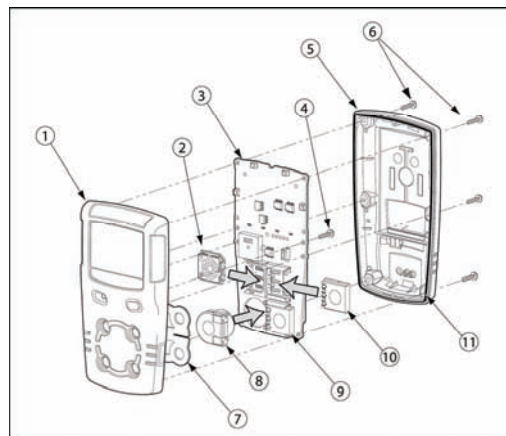

Figure 5. Replacing a Sensor or Sensor Filter
- Ensure the rear shell sealing rib is not folded when replacing the rear shell (see Figure 5).